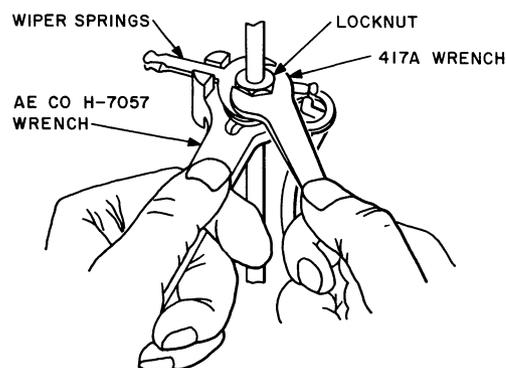

Fig. 9 — Method of Aligning The Wiper Springs Vertically
- (1) Where wiper springs are assembled to the hub with a clamping nut, align the wiper springs vertically by loosening the locknut at the top of the wiper with the 417A wrench. Place the A.E. Co H-7057 wiper wrench over the wiper with the springs of the wiper in the slot designed to hold them. Then retighten the locknut. See Fig. 9.